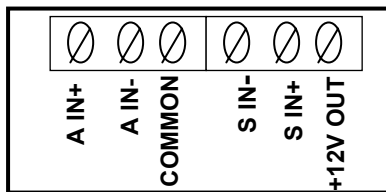

Figure 10
6. Inserts the sensor's DC common wire into the **COMMON** terminal and secure the wire by turning the terminals's screw clockwise. (Refer to the *MX001* box or to *Figure 10* for the order of the terminals for the sensor wires.)